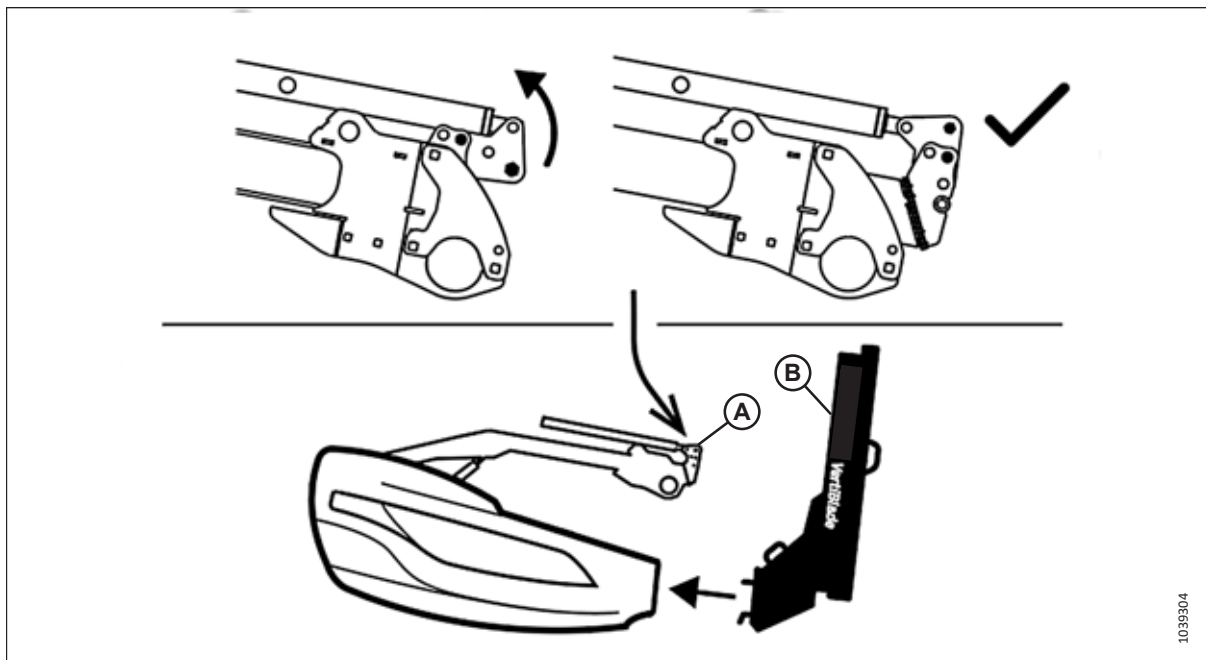

Figure 3.172: Reel Position with Vertical Knife Option Installed
To prevent contact between reel arm (A) and vertical knife (B), retract the reel fore-aft cylinder position as shown in Figure 3.172, page 153 before installing the vertical knives.